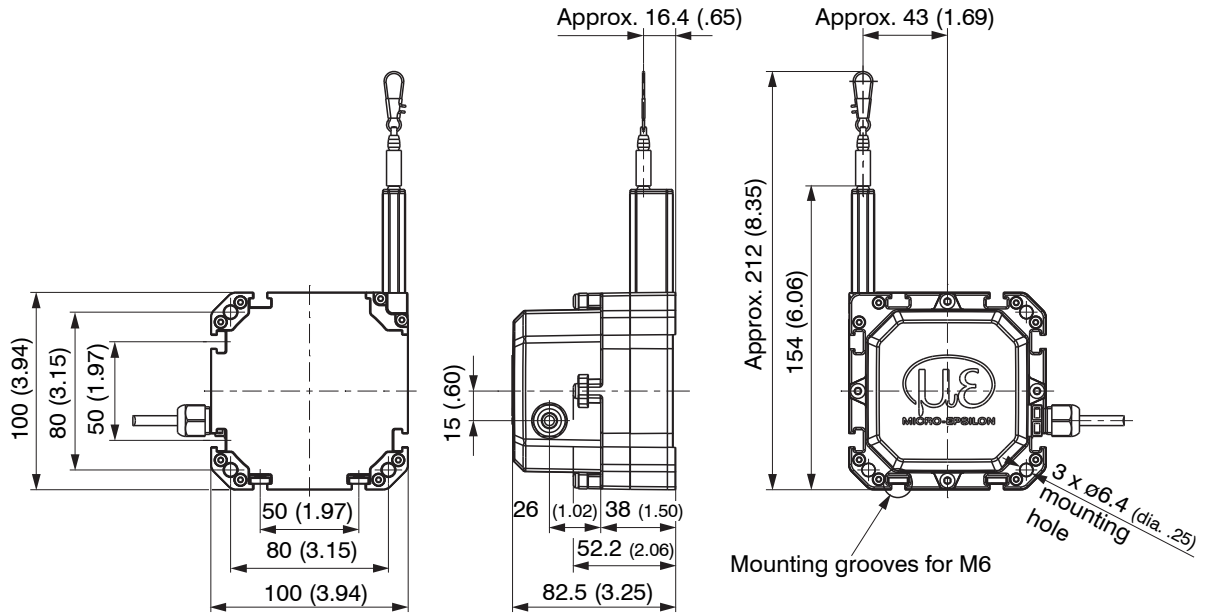

Fig. 3 Dimensional drawing WPS-3500-K100, WPS-5000-K100, WPS-8000-K100 with integrated cable, radial, length 1 m, dimensions in mm (inches)
- ➡ Mount the sensor either with M6 screws (through-hole) or with slot nuts (mounting grooves) according to the specifications in the following table and according to the following figures, see Fig. 2, see Fig. 3.